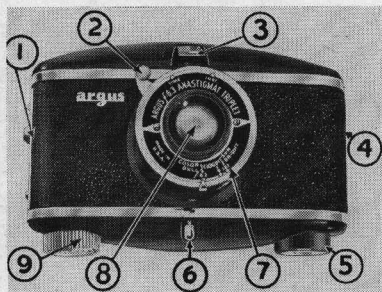
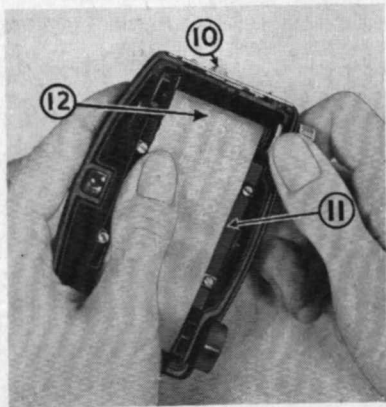
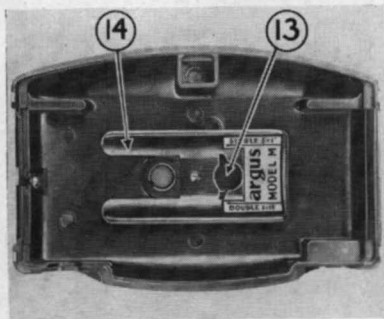

Figure 1
Figure 2
Figure 3
Grasp the camera in the left hand with the back toward the operator with the lock clip (1, figure 1) up. Move the lock button (10, figure 2) in the direction of the pointer. Remove the camera back with the right hand as the lock clip is held open with the left.
Place the roll of film in the lower end of the case in line with the tripod socket. Set the picture size by turning the flaps on the film gate to form either a single or double frame picture as desired. Pull only enough paper leader across the film track (11, figure 2) as is required to start the leader into the slot of take-up spool (12, figure 2). As the leader is pulled through for loading, the thumb of the left hand should retard the motion of the roll of film and prevent an unwinding or loosening of the film on the spool. If care is not exercised in loading the camera a loose roll of film will eventually lead to objection-
After the paper leader has been inserted into the spool slot turn the winding knob (9, figure 1) in the direction of free rotation. A brake is provided to prevent the accidental
Before attaching the camera back (figure 3) the counter shutter (13, figure 2) must be set to the proper picture size. When taking double frame pictures this shutter must be in the position illustrated so that the second green window is blocked off. To change from double to single frame move the shutter with the thumbnail against the small lug on the shutter which protrudes through the pressure pad (14, figure 3). When loading the camera always remember to check both the picture flaps and the counter shutter for the desired picture size. These two adjustments must be for the same size picture to operate properly.
When counting double frame exposures, the first window is covered by the shutter and the second window only is used. After the first picture has been taken, advance the film slowly until the figure 2 appears in the window. The camera is now ready for the second picture.
When counting single frame exposures, both counter windows are used. The first exposure is made with the figure 1 appearing in the first counter window. After the first picture is taken, advance the film slowly until the figure 1 appears in the second green window. The film is now in position for the second exposure. After picture number 2 is made, advance the film slowly until figure 2 appears in the first window, thus bringing the film for the next picture in place. Repeat the procedure as outlined above for the following exposures. When the figure 12 appears in the last window actually 24 exposures will have been made since each figure appeared once in each of the two windows.
lens plate should be observed carefully. The latitude of the film speed will compensate for any reasonable error in judgment. The word INST (instantaneous) should appear directly in line with notch in the shutter set ring. When making pictures under artificial light and very poor light conditions, it is necessary to make a time exposure. To set the shutter for Time, rotate the knurled ring on the outside of the shutter until the notch in the ring is directly above the word TIME. When the shutter is set in this position it will remain open as long as the shutter lever (2, figure 1) is held down. When a time exposure is made the camera must be placed on a tripod or other rigid support. The length of time required for a time exposure should be calculated with an exposure meter. Your Argus dealer has many such inexpensive meters on display.
render true color values in bright sunlight. The exposure guide (7, figure 1) should be disregarded and the pointer set at COLOR regardless of daylight conditions since the guide is intended for black and white Arguspan only. Best color results are obtained only when the sun is directly in back of the camera, since flat bright lighting is essential. Never attempt to take color pictures against the sun or in shaded areas. Eastman No. 128, Kodachrome, and Eastman No. 828 black and white film may also be used with the Model M Argus camera.
3. Composition. The difference between a fair and an exceptional picture usually lies in composition. Hold the view finder (3, figure 1) as close to the eye as possible when observing a subject. Regardless of the fact that the view finder is purposely designed to include slightly less area than that actually photographed, care should be taken to include all of the subject in the picture. When shooting double frame pictures the entire view finder
4. Focusing. The lens must be snapped into the extended position by depressing lock button (6, figure 1) before taking a picture. Negatives which appear as a round dark circle are the result of making an exposure with the lens in the closed or carrying position. When the lens is in the extended position all objects from approximately six feet to infinity will be sharp. An accessory portrait lens may be purchased which will render objects at $3\frac{1}{2}$ feet critically sharp. This lens is ideal for all portrait or close up photographs and may be slipped